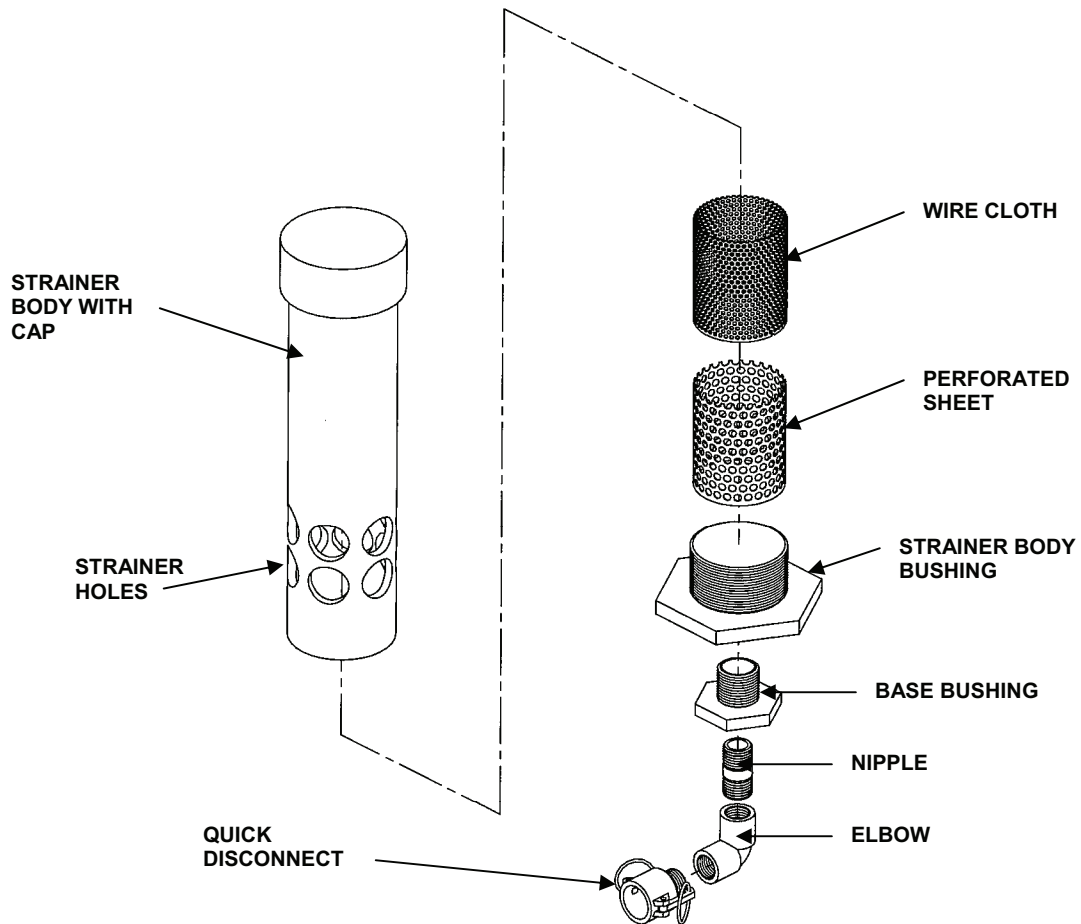

Figure 3. Strainer Assembly (Exploded View).
1. Unthread strainer body bushing from strainer body. See Figure 3.
4. Apply anti-seize tape to strainer body bushing threads. See Figure 3.